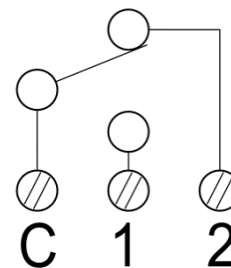

FIGURE 2 – SIGNAL SWITCH WIRING
| TERMINAL | IDENTIFICATION (see Figure 2) |
4. Connect the wires to the appropriate terminal connections for the service intended (see Figure 2).